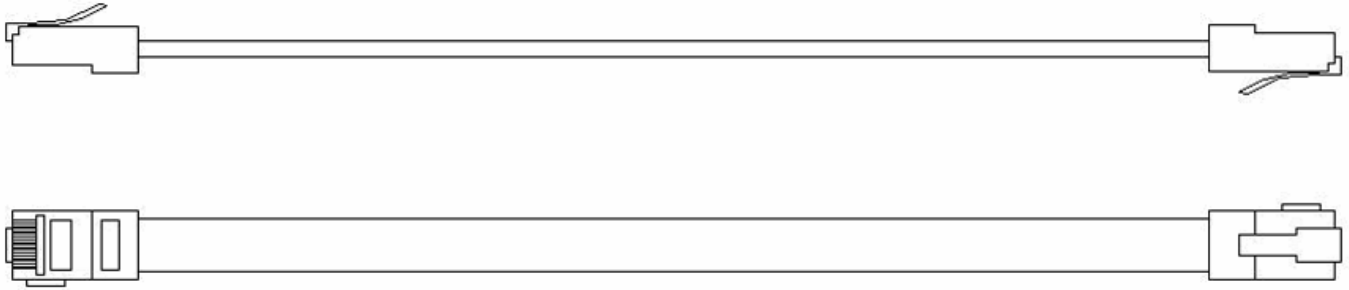

Fig. 1 Control Module to Charger Cable Assembly
- Eight-position keyed-modular plugs, modular cable and crimping tool are supplied. The user/installer will cut the cable to the required length and install the modular plugs on both ends of each cable. Refer to Figure. 1 for details.